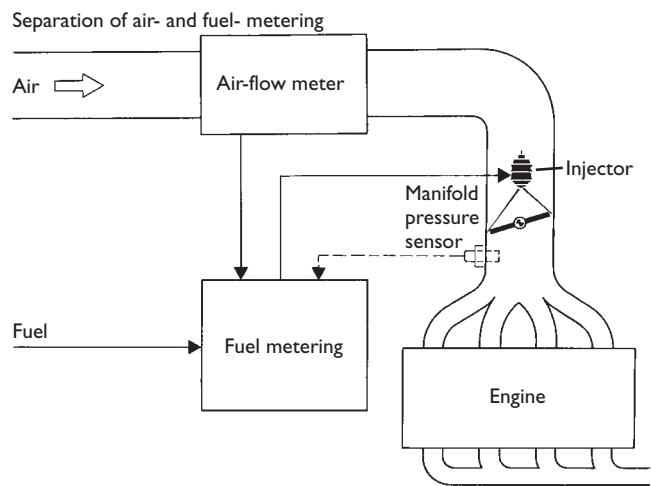

Figure 6.9 Single point fuel injection principle
- Single point, or throttle body injection. This system has one injector that operates from a central point (Figures 6.9 and 6.10).